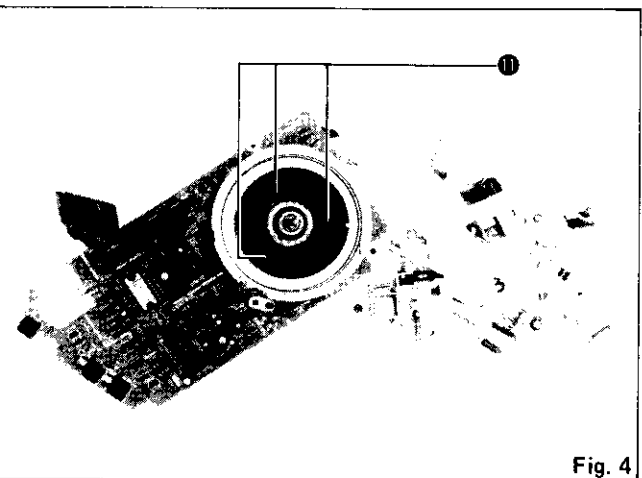

Fig. 4
3. Remove 3 setscrews ① of the stater frame cover, (See Fig. 4)